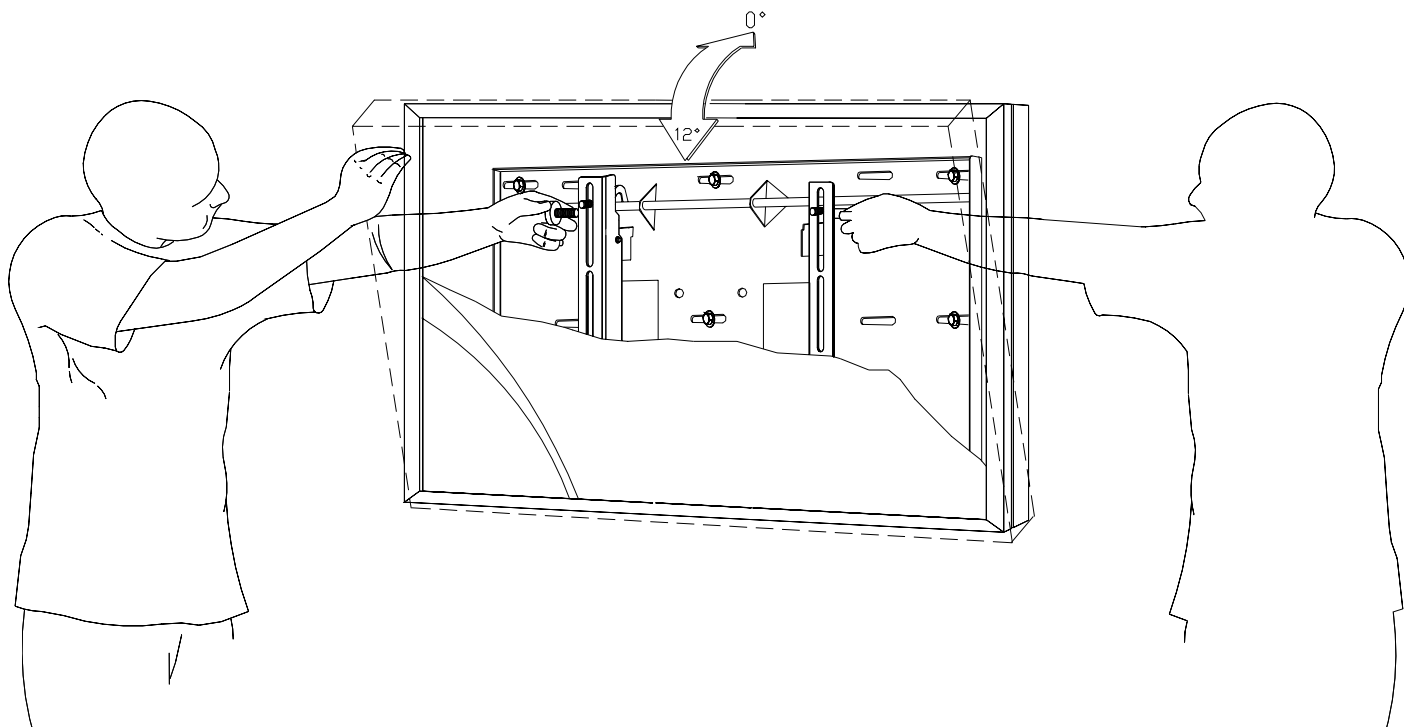

Figure 17
3. Tilt the flat panel and secure the two (2) M6 x 12mm safety knobs to each of the mounting brackets (Figure 17).